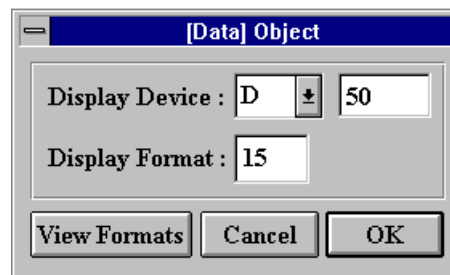

Fig. 3-12: Data Object Dialog
- 3) Click left, the **Data Object Dialog** as shown in Fig. 3-12 is popped up.